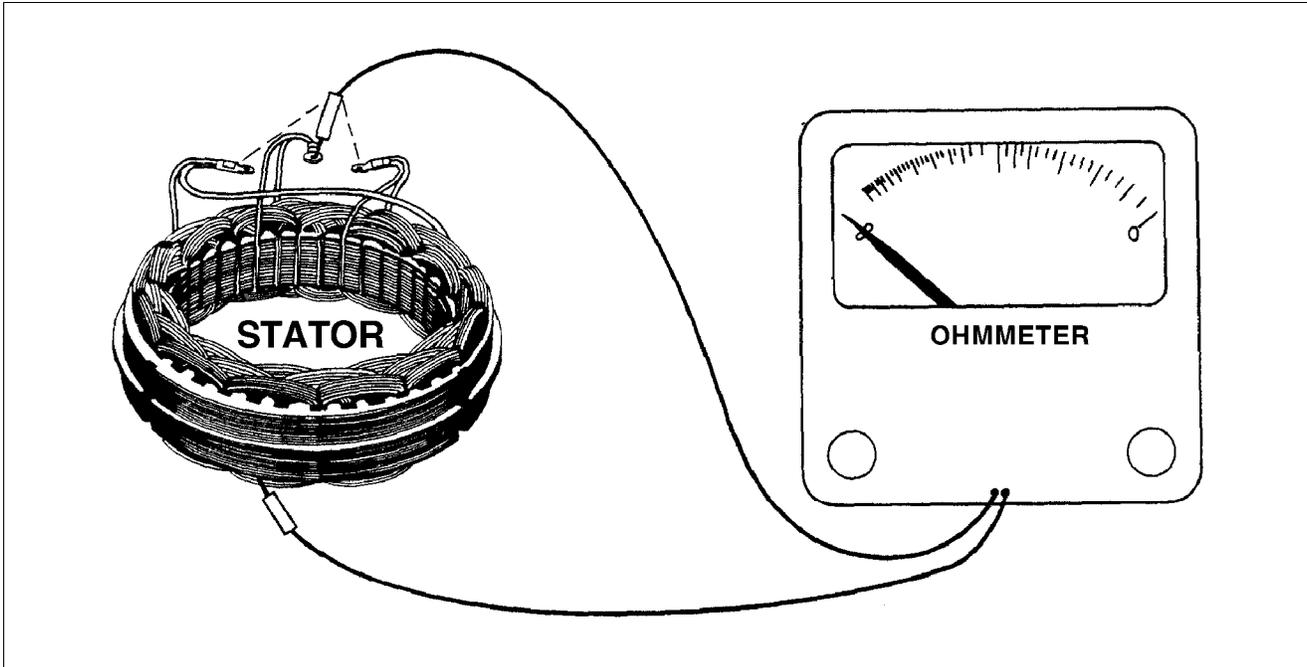

Figure 24-16. Stator Ground Test
f. Stator Ground Test (Refer to Figure 24-16)
- (1) Set ohmmeter selector switch on resistance scale 1000 and zero the meter.
- (2) Connect one meter lead to bare metal portion of stator core and other lead alternately to each of the stator leads. The ohmmeter should read infinity (no needle movement). Be sure lead is making good contact with stator core surface.
- (3) If meter shows any reading (needle moves) the stator is grounded and must be replaced.